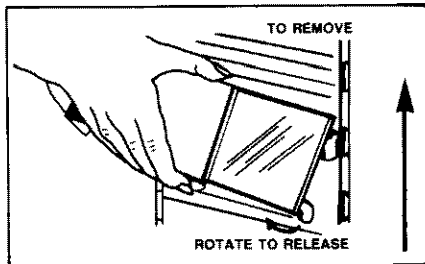

FIGURE 84
**Door Shelves.** Some models feature door shelves that can be moved up or down to fit storage needs. See Figure 84. To remove, loosen shelf by tapping upwards gently underneath both ends. Lift shelf slightly (1), then rotate bottom out and up to release mounting hooks from door slots (2). To install, tilt shelf and insert upper hook into any two door slots as shown. Rotate shelf bottom towards door and insert bottom hooks into door slots. Hold shelf against door and tap down gently on both ends until shelf is seated securely.